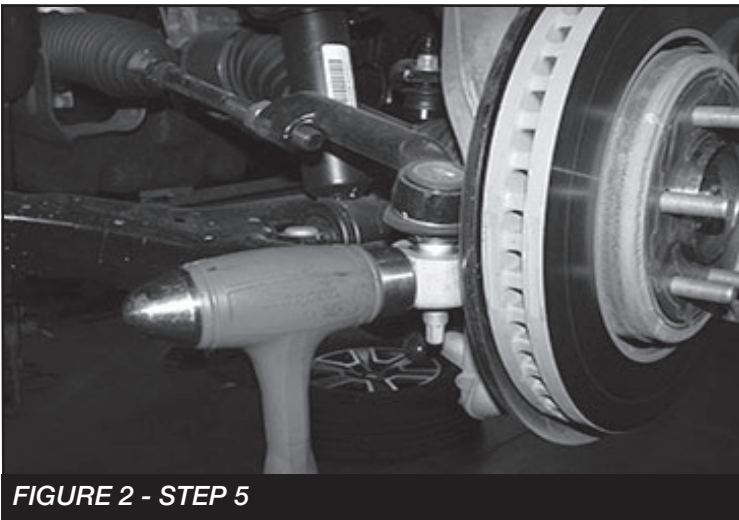

FIGURE 2 - STEP 5
5. Disconnect the tie rod ends from the steering knuckle by striking the knuckle to dislodge the tie rod end. **SEE FIGURE 2**